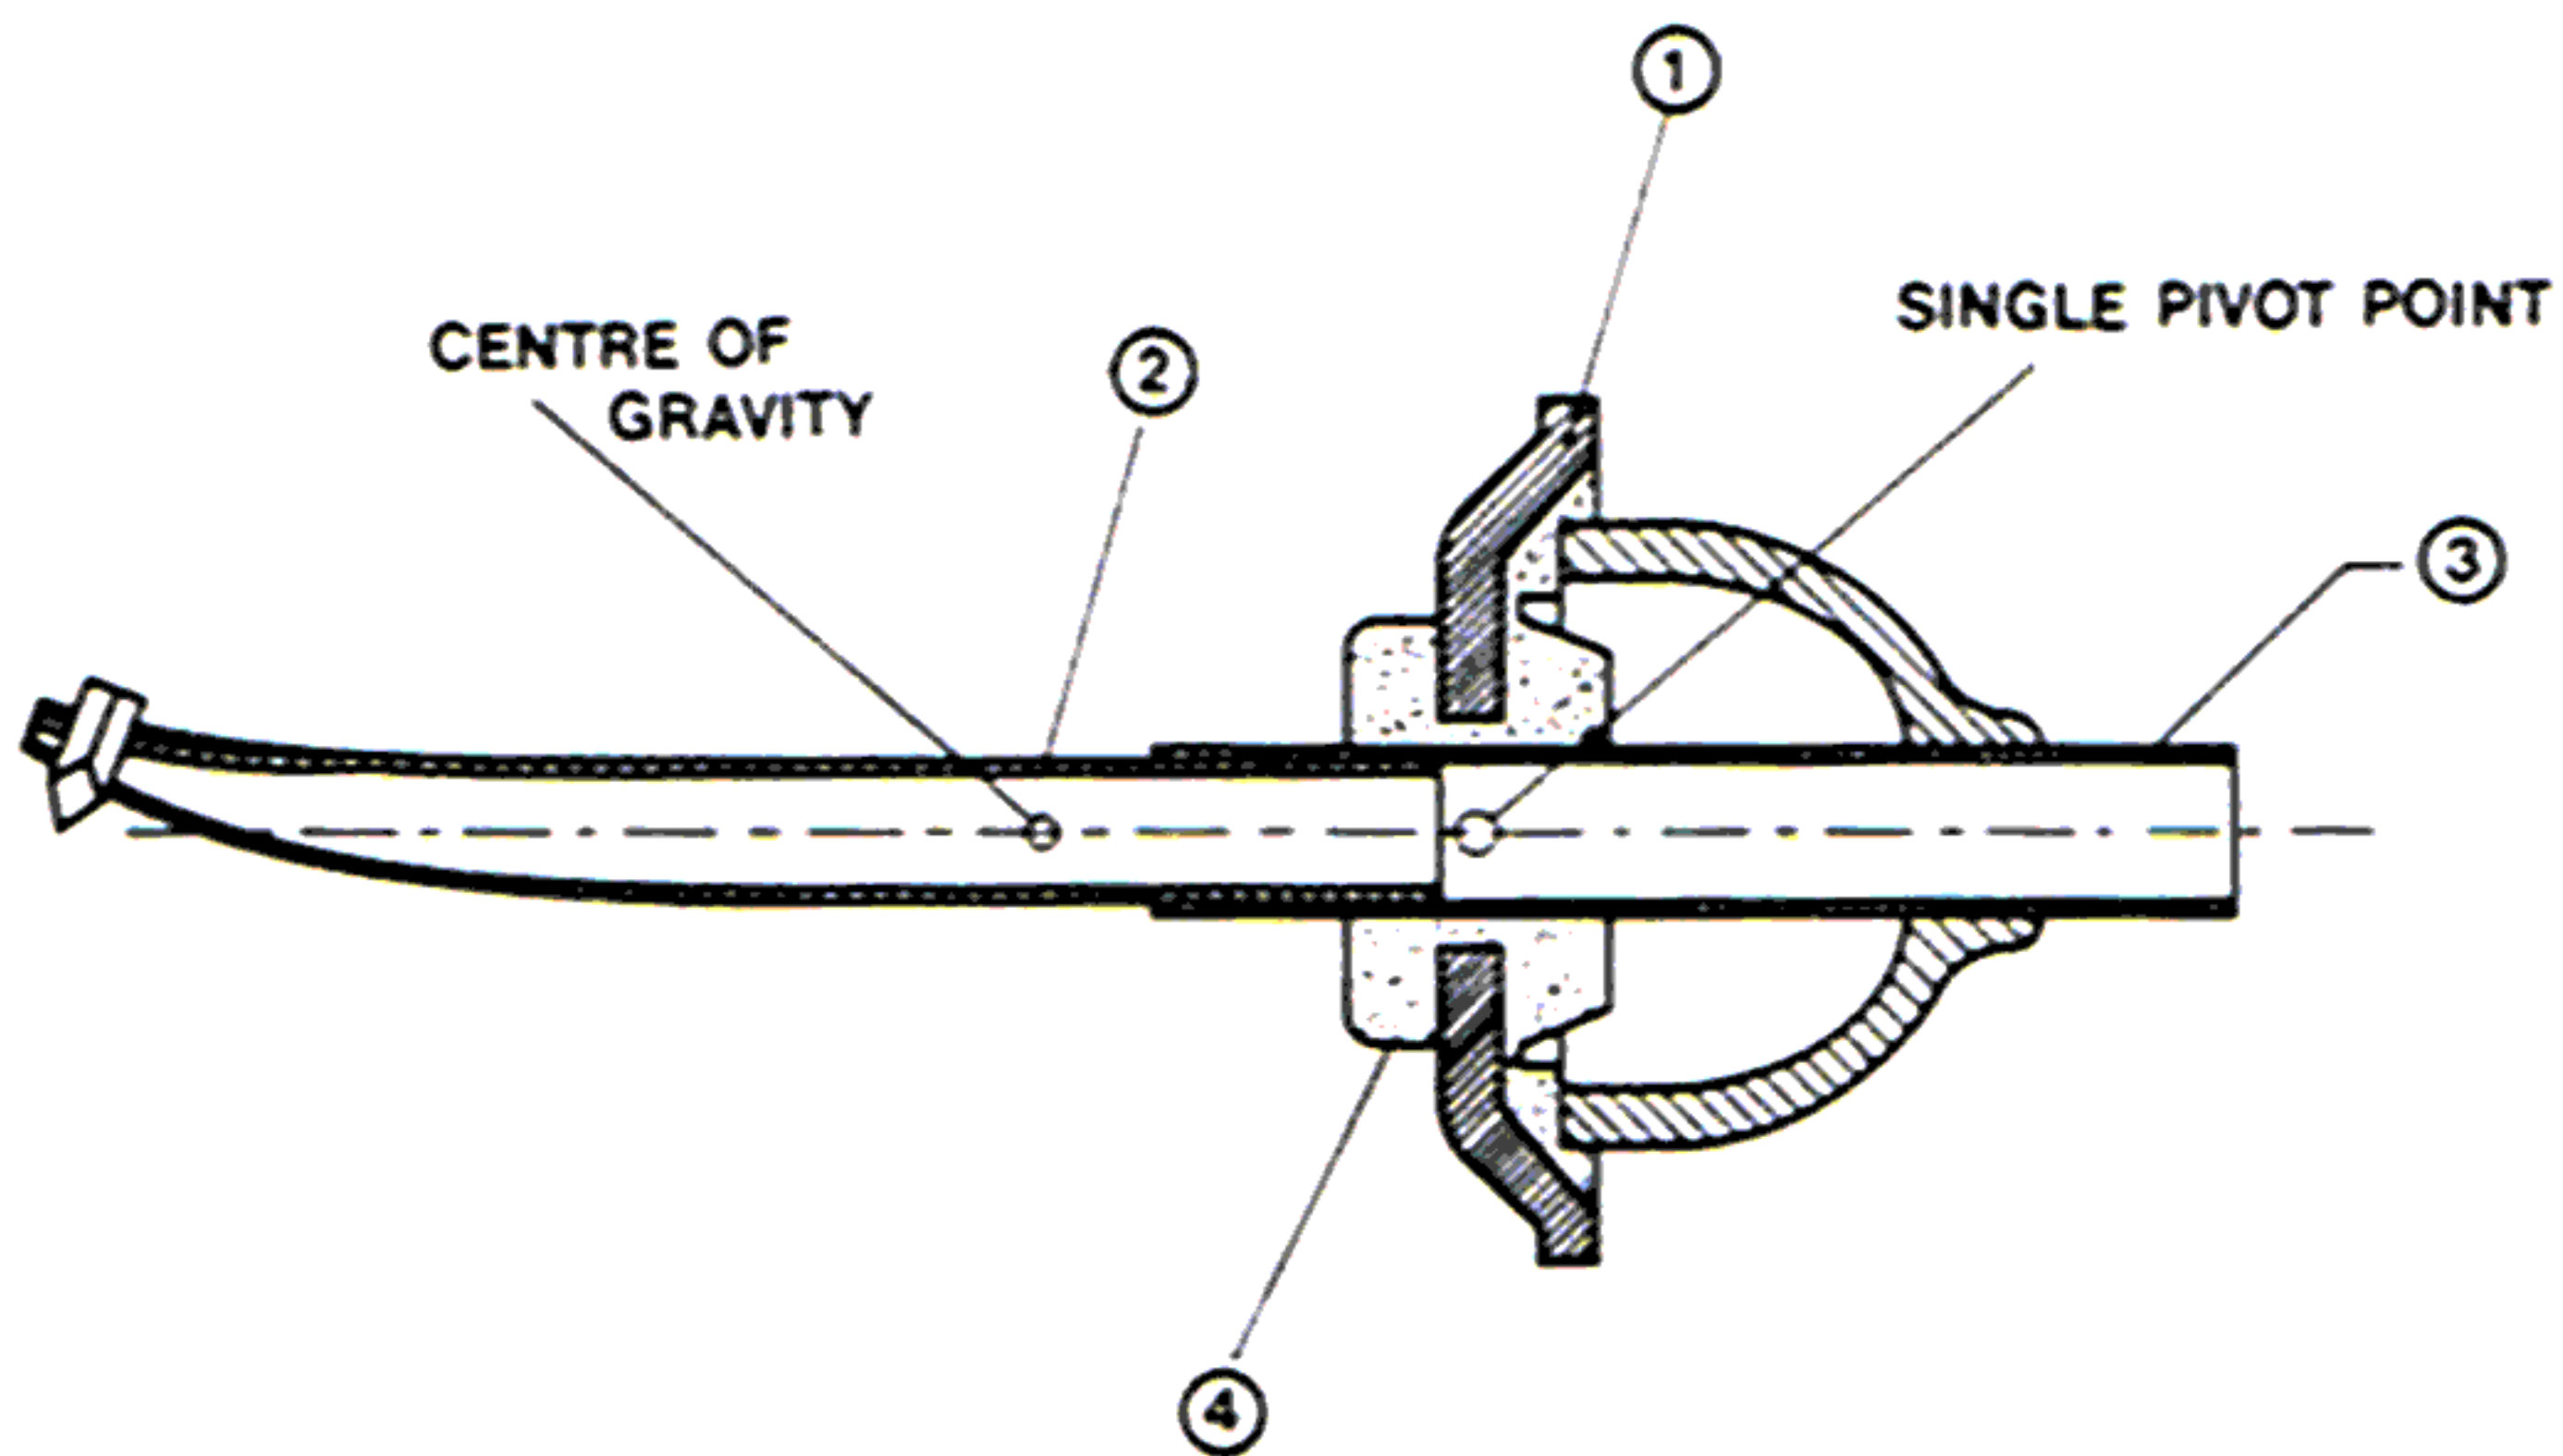

Fig. 1
AKG have developed a unique single pivot point suspension system (Fig. 1) in which the suspended stylus is centred symmetrically in a minute hole precisely cut in a thin metal plate ①, the hole having a marginally larger diameter than the stylus ②. The metal plate and the stylus are connected together by means of a newly developed rubber compound ④, vulcanized to both parts in a special bonding process, thus creating a „knife-edge” type bearing in the area of the plate hole. Having this knife edge effect at the plate hole virtually eliminates all axial shifting of the pivot point. This enables the stylus tip to relay to the moving iron armature ③ with maximum accuracy, all information retrieved from the record groove modulation — evenly and independent of directional movement. Thus, any frequency dependent distortion of directional information is eliminated. A miniature magnet mounted in the cartridge body and not attached to the stylus itself, greatly reduces the effective moving mass. A short cantilever with a wall dimension (model P8ES) of 30 microns (0.0012”) helps to reduce it even further, producing a system with high compliance and the lowest possible mass, able to respond instantaneously to sudden peaks (transients). At the same time, record/stylus tip wear is kept to an absolute minimum.